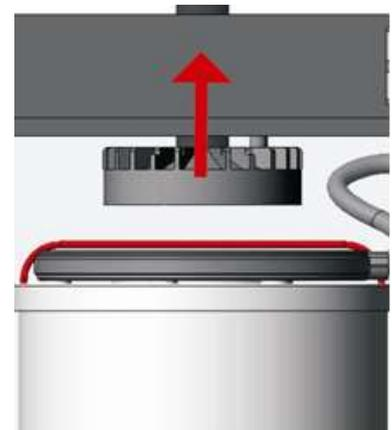

Fig. 29
3. Lift the upper steam flange by unhooking it from the cylinder (Fig. 29).